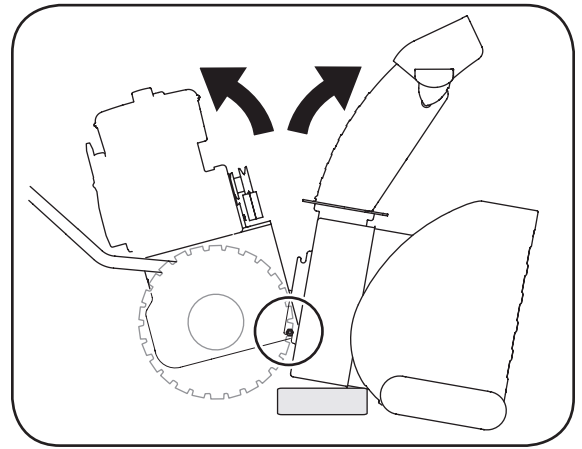

Figure 29
9. Place a block of wood underneath the auger housing as shown in Figure 29 and separate auger housing from the frame by tilting the housing forward and pulling up the handles.